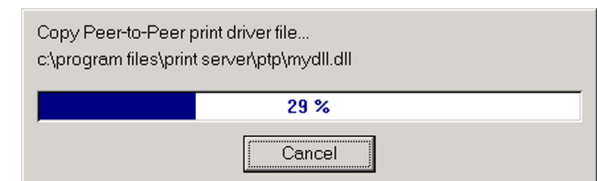

Figure 5-5: Copy Folder
6. The next screen that may appear while the driver is being installed, is shown in Figure 5-5. Click **Cancel** to end the driver installation.